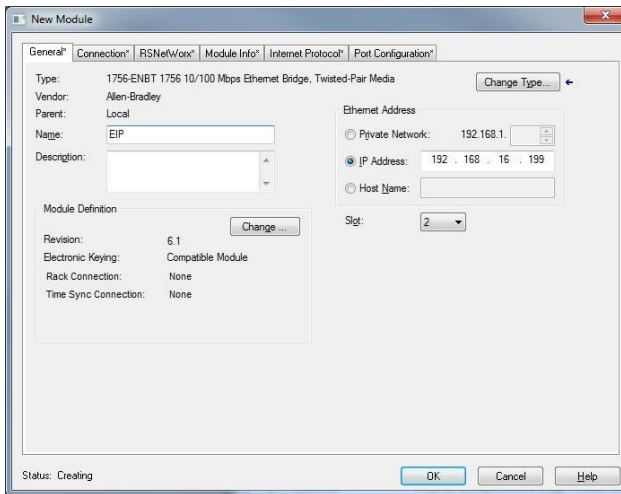

Figure 26: Identifying the New Module
- 6) The "New Module" window will open. Refer to Figure 26.